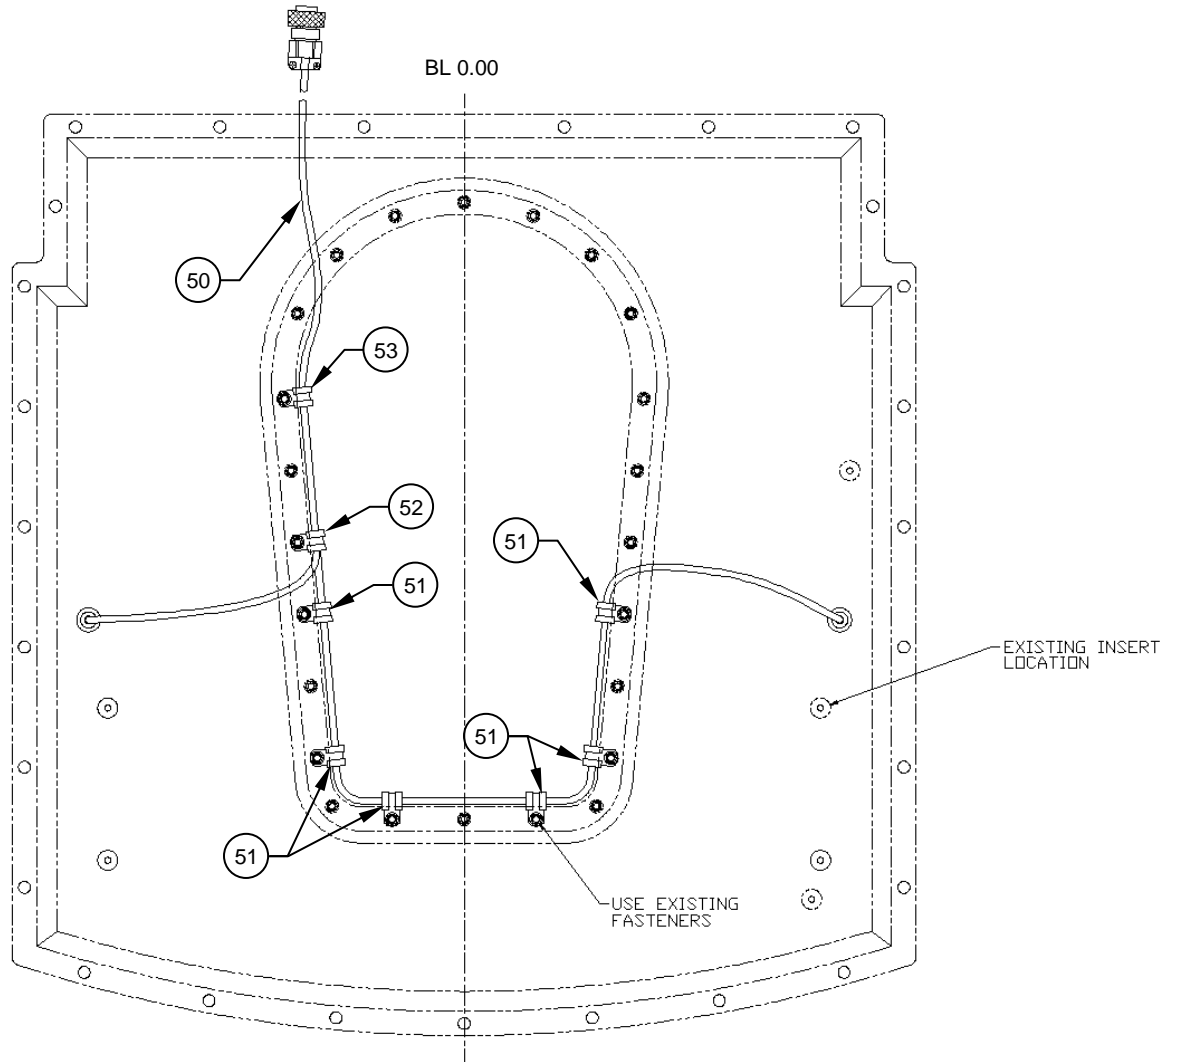

Figure 9
20. Secure the Wiring Harness (Item 50) to the top side of the inverter bay panel using the supplied clamps as shown. Reference Figure 9.